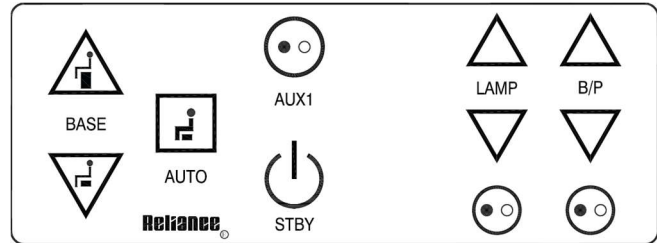

FIGURE 14
4.5.1. The Instrument Console or Base Cap contains electrical controls for the entire Unit. Refer to Figures 14, 15, and 16 for the location of controls and other parts.
4.6.1. The controls for the Stand are located on the panel above the Instrument Wells. Refer to Figures 14, 15 and 16 for identification of the various controls.